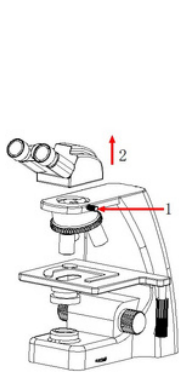

Fig. 5-5-1
1. Take out the dust cover of the trinocular microscope, as shown in figure 5-5-1: